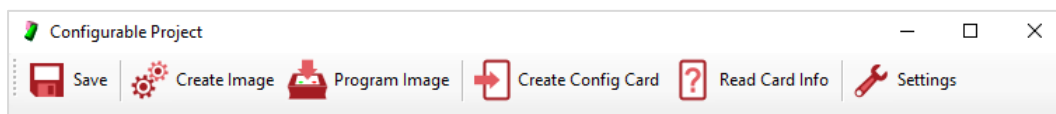
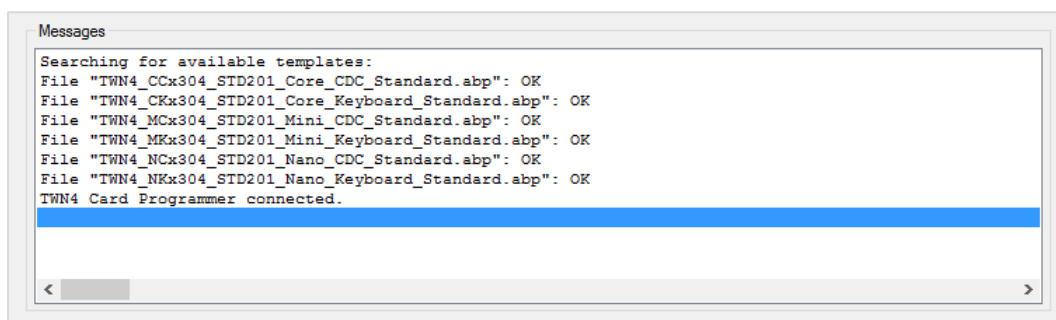

Fig. 13
Fig. 14
2. Connect the TWN4 Config Programmer to a PC. The “Create Config Card” and “Read Card Info” buttons appear (Fig. 13) and the message “TWN4 Card Programmer connected.” is displayed in the “Messages” window (Fig. 14).